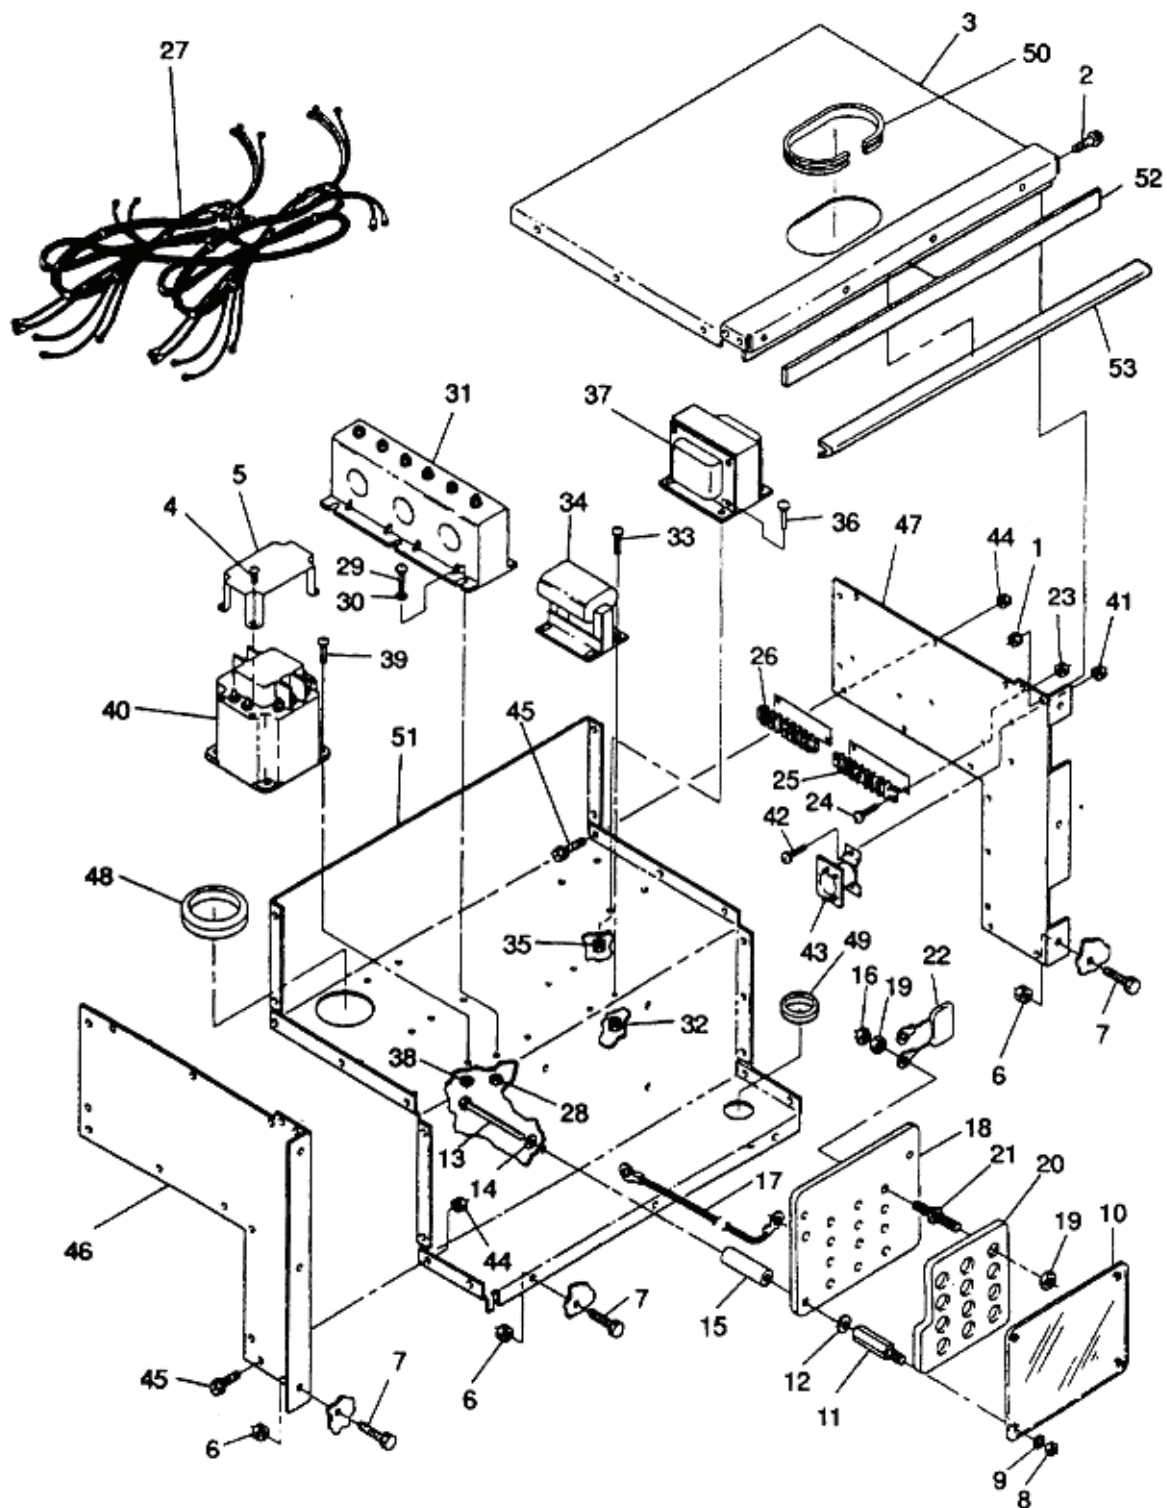

Figure 1. Output Box Assembly.
1. Install output box assembly in generator set with bolts (Figure 1, Item 7) and nuts (6).
2. Connect exciter leads F1 and F2 to terminals 1 and 2 of terminal board (26). Remove tags.
3. Connect output cables to terminals A2, B2, and C2 of AC circuit interrupter relay (40). Remove tags.
4. Install cover (5) on AC circuit interrupter (40) with screws (4).
5. Install main generator cables onto current transformer (31) and droop current transformer (34) with the same number of wraps recorded during removal.
10. Install output box top panel (3) with bolts (2) and nuts (1).
Assistant/Operator**References**WP 0098, Figure 1, Item 21
WP 0100, Figure 1, Item 3